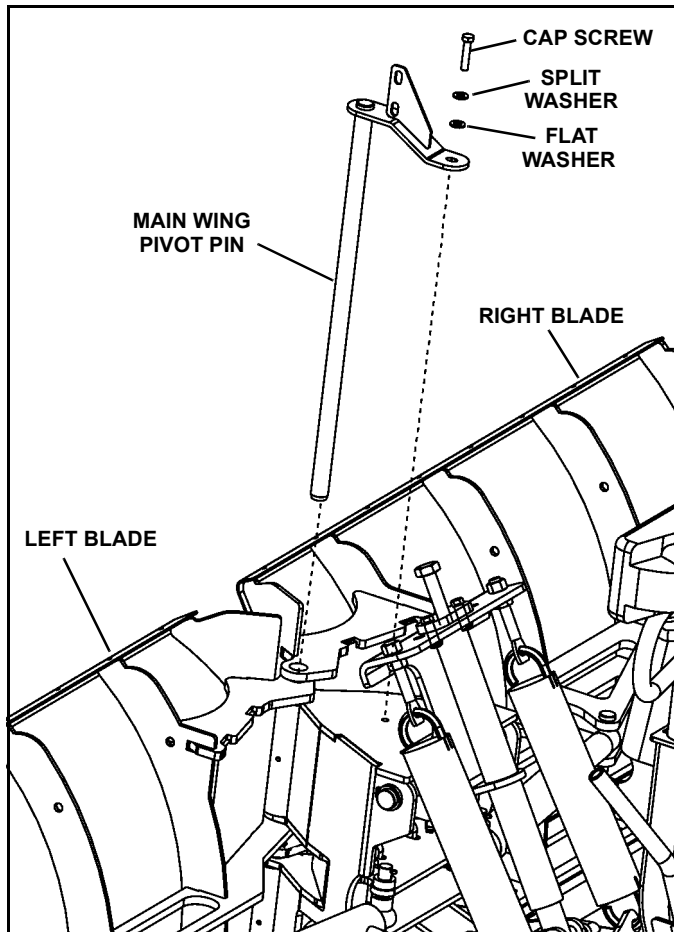

Figure 1-5
8. Coat main wing pivot pin with grease and insert completely through the tower, blade section pin holes, and support plate holes (See Figure 1-5).